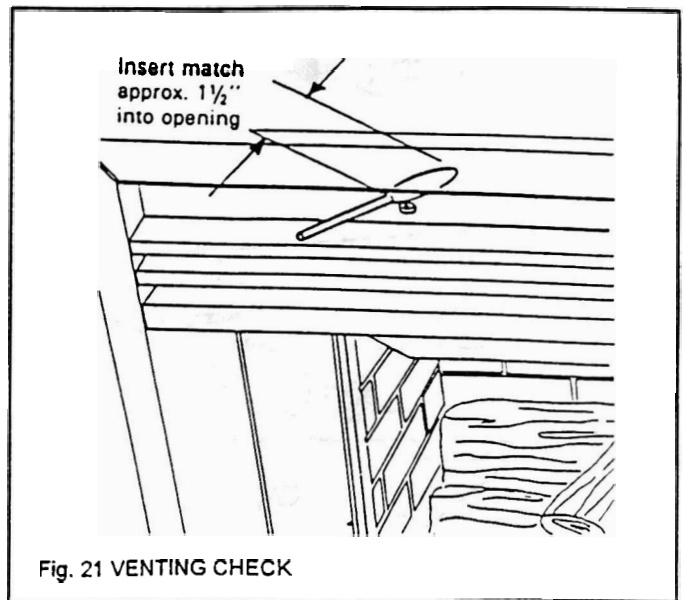

Fig. 21 VENTING CHECK
- 10.2 Leave the appliance on for 15 minutes then light a smoke match and insert it inside the left side of the top opening. Insert the match approximately 1 1/2" into the opening (see fig. 21).